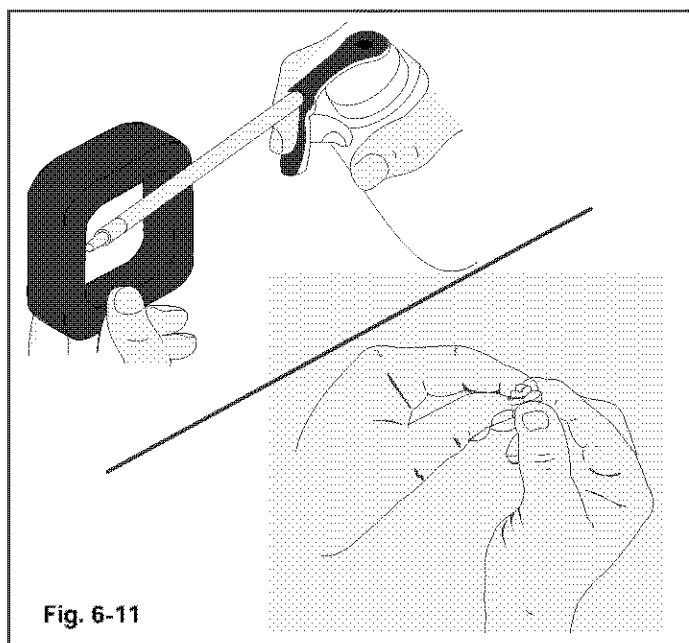

Fig. 6-11
4. Apply enough clean SAE 30 motor oil to lightly coat the filter (Fig. 6-11).
5. Squeeze the filter to spread and remove excess oil (Fig. 6-11).